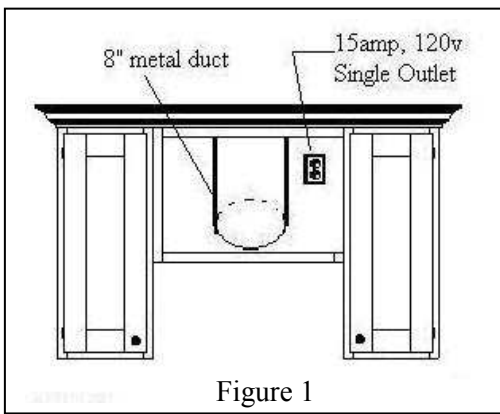

Figure 1
- Make sure you have a 15amp, 120V, 60Hz, single outlet on the left or right of the duct pipe (usually is on 1/4 of cabinet width). See Figure 1